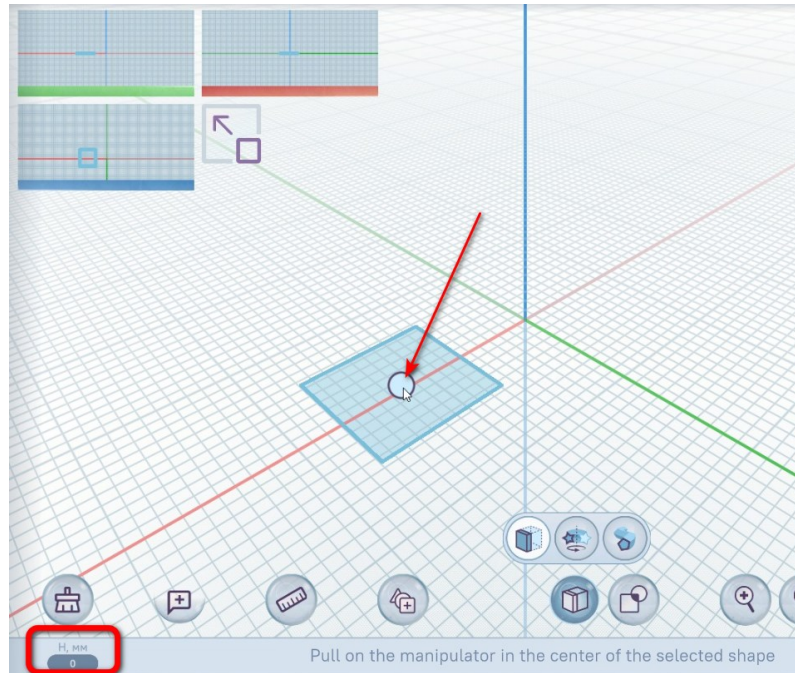
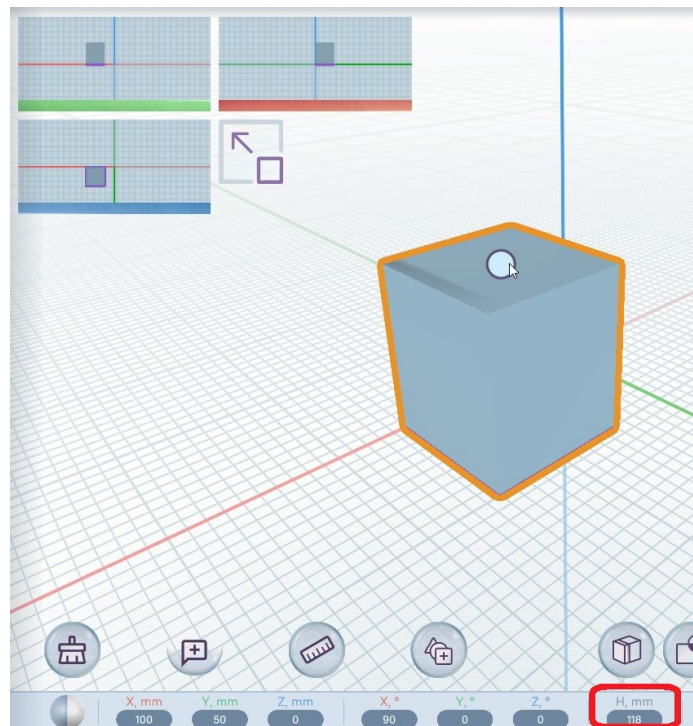

Figure 92 – Extrusion manipulator and field for entering the extrusion thickness value
Figure 93 – Extruding a three-dimensional figure using a manipulator
- 4) Select a sketch by clicking on it. There are several options when a sketch is selected (Figure 92):
- Drag the circle-manipulator along a line perpendicular to the sketch and passing through its pivot. For the sketch in Figure 92, which lies in the XY plane, the circle manipulator will be available for interaction in perspective, frontal (parallel to the XZ plane), and profile (parallel to the YZ plane) views. In Figure 93, a three-dimensional figure is formed by extrusion of the manipulator along the positive direction of the Z axis. In this case, the value of the thickness of the extrusion is displayed in the properties panel.